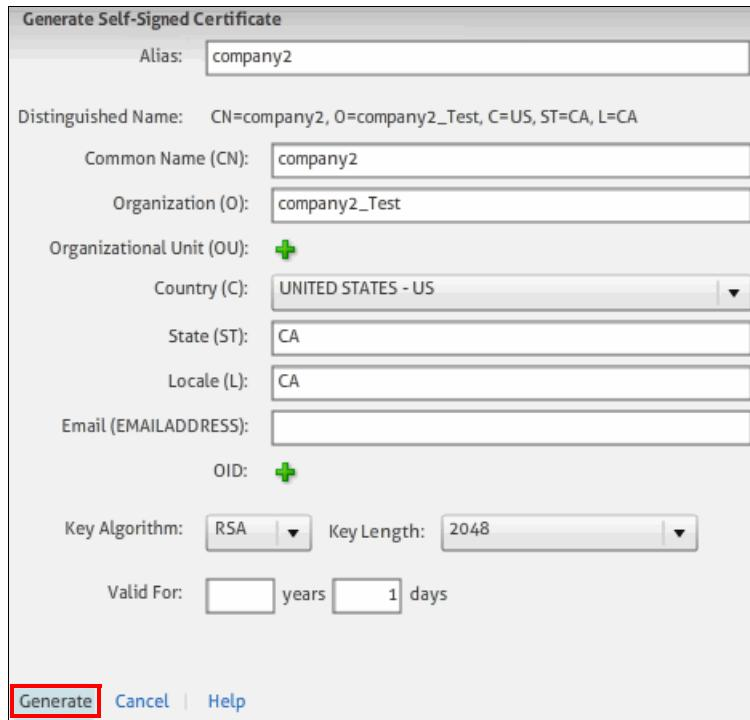

Figure 5-44 Self-Signed certificate sample data
- Enter the values for your company. Figure 5-44 shows sample data. Click **Generate**.